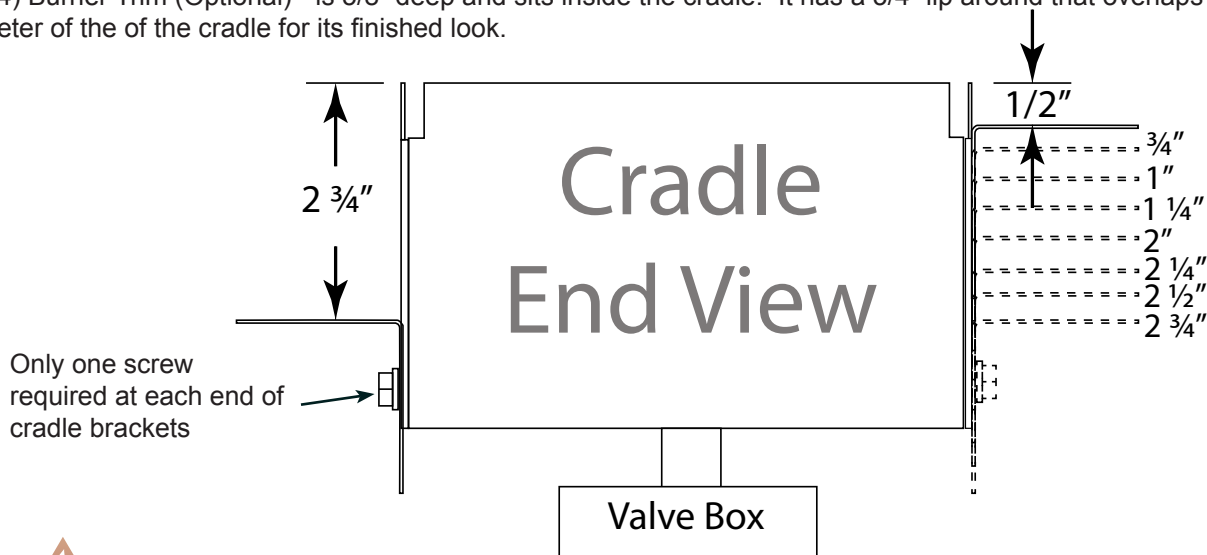

Fig. 4 Cradle bracket depth alignment
- 2) **Cradle Bracket** - These brackets are 23" long with 2" flanges. Each Linear model comes with two (2) cradle brackets that mount on both sides of the fire pit. The 7" frame clearance allows for the screws securing the cradle brackets. Each cradle bracket can be adjusted 1/2" from the top edge of the cradle or lowered to a total of 2 3/4" from the top edge of the cradle. There are 1/4" increments to adjust the depth of the fire pit to fit most finishing materials (See Fig. 4.).
3. The primary gas shut-off (not supplied) will require a $\frac{1}{2}$ " male flared fitting to enable connection of the stainless steel flex gas line supplied with the fire pit (see figure 4).